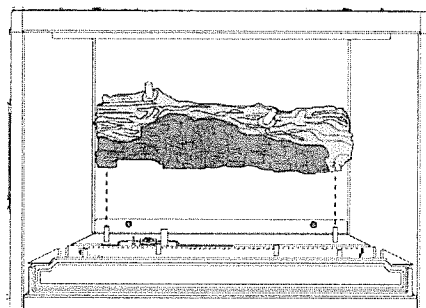

Figure 24 Engage rear log with base pegs.
1. Place the Rear Log in position on the pegs in the log support at the back of the firebox as shown in fig. 24.